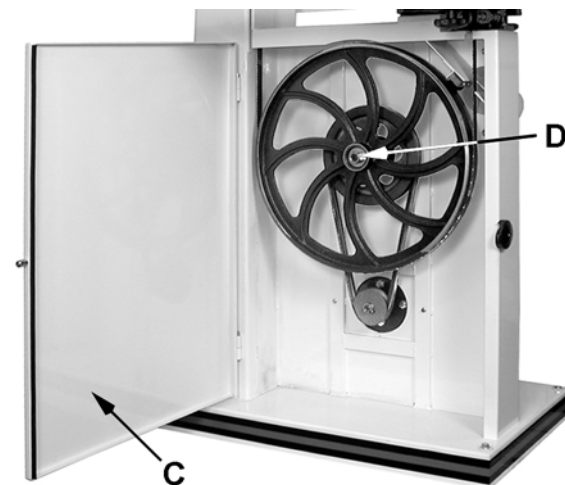

Figure 26
4. Open the lower wheel door (C, Fig. 26) and remove the hex nut and washer (D, Fig. 26).